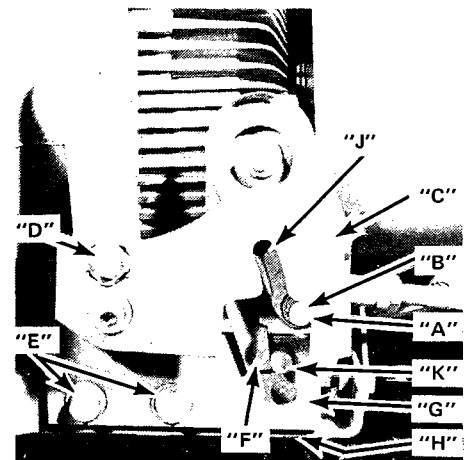

Fig. 28
Refer to Figure 28. Start engine and release parking brake. If the tractor creeps "Forward" or "Backward" the "Neutral" position needs adjustment.
1. With the engine off, release parking brake and place travel pedal in full reverse position. Pin "A" Figure 28 should be tight in corner "B" of lever "C" Figure 28. If adjustment is necessary loosen cap screw "D" and adjust lever "C". Securely retighten cap screw "D" after adjustment is achieved.
4. Loosen capscrews "E" Figure 28. Hold neutral arms "F" firmly in contact with pin "K", carefully move plate "G" toward front of tractor, if tractor is creeping forward, and toward rear of tractor if tractor is creeping backward, until Hydrostatic noise ceases and wheels no longer creep.